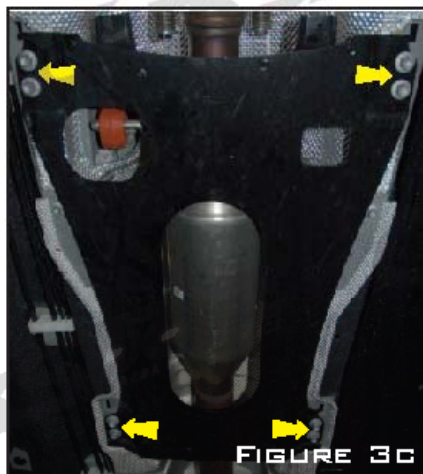

FIGURE 3C
C. REMOVE 8X12MM BOLTS FROM CENTER CHASSIS SUPPORT MEMBER SHOWN IN FIGURE 3C. SLIDE THE SUPPORT MEMBER HOOKS OUT OF THE FLOOR PAN AND SET ASIDE.